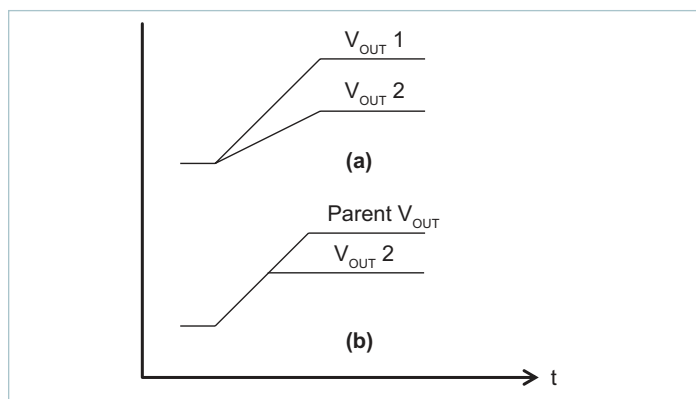

Figure 46 — PI33xx tracking methods
There is typically either proportional or direct tracking implemented within a design. For proportional tracking between several regulators at start up, simply connect all devices TRK pins together. This type of tracking will force all connected regulators to start up and reach regulation at the same time (see Figure 46(a)).
All connected regulators’ soft-start slopes will track with this method. Direct tracking timing is demonstrated in Figure 46(b). All tracking regulators should have their Enable (EN) pins connected together to work properly.